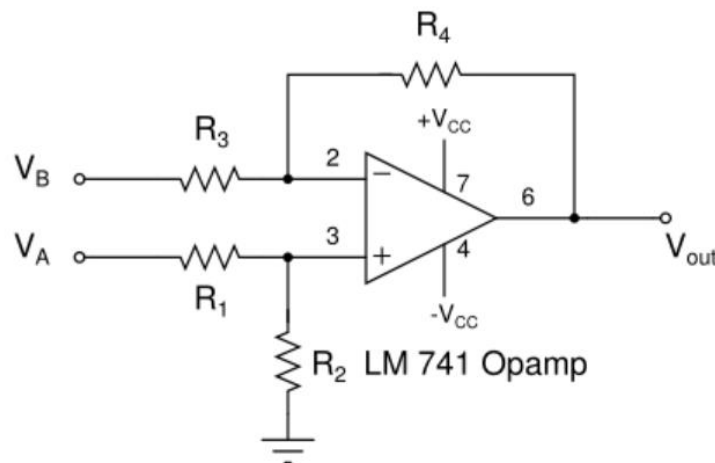

Fig. 3.3 Single-op amp difference amplifier (for measuring V_{out} variations with load)
Fig. 3.3 gives the circuit diagram of a difference amplifier. The voltage gain of the amplifier is 10. We want the difference amplifier to measure the small variations in the LM7805 variations with reference to the nominal V_{out} value (of +5V). With $V_A = V_B$, the difference amplifier output will be zero. V_{out} of the difference amplifier will amplify any voltage difference between V_A and V_B by a factor of 10. In this case this will amplify the difference LM 7805 output with reference to its nominal value.
1. Wire the op amp difference amplifier circuit of Fig.3.3.